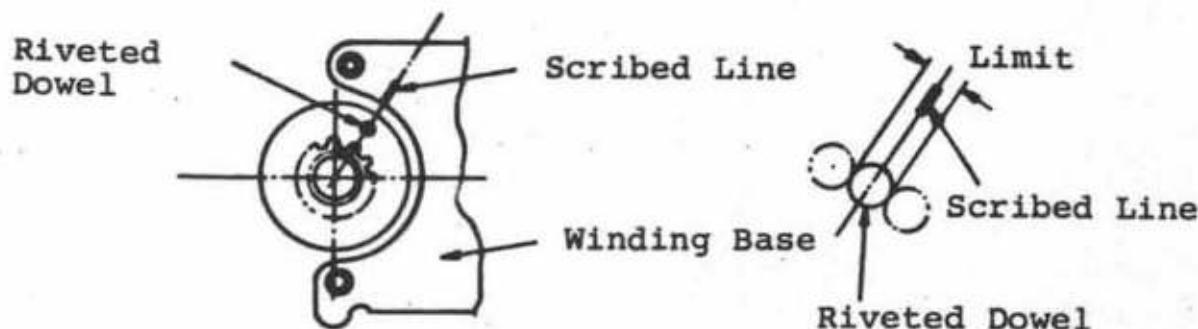
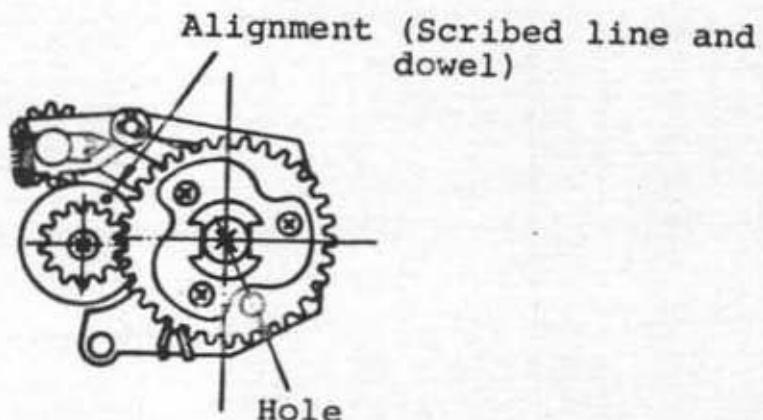

Fig. 2-15
Fig. 2-20
1. Align the center of the riveted dowel on compound gear-II with the scribed line on the Winding Base. (CF1-0231-000) as shown in figure 2-15. The limit is $\pm 1/2$ the dowel diameter.
2. Recheck the alignment of the dowel and scribed mark detailed in section 2.13 (Fig. 2-15) after having installed the charge gear with the screw access hole positioned as shown in figure 2-20. Adjust to maintain the position by selecting a charge gear that gives the correct alignment.